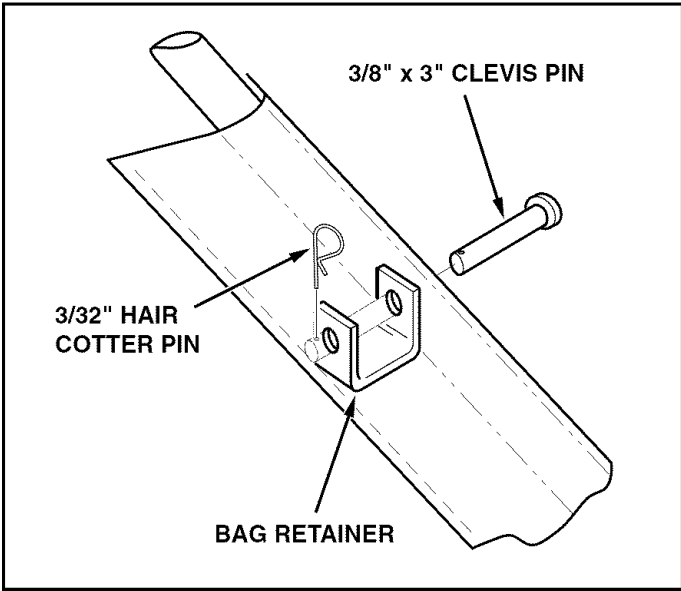

FIGURE 16
- Insert the 3/8" x 3" clevis pins from the outside through the side tubes where the holes were pierced. Assemble the bag retainers onto the clevis pins and secure with 3/32" hair cotter pins. See figure 16.